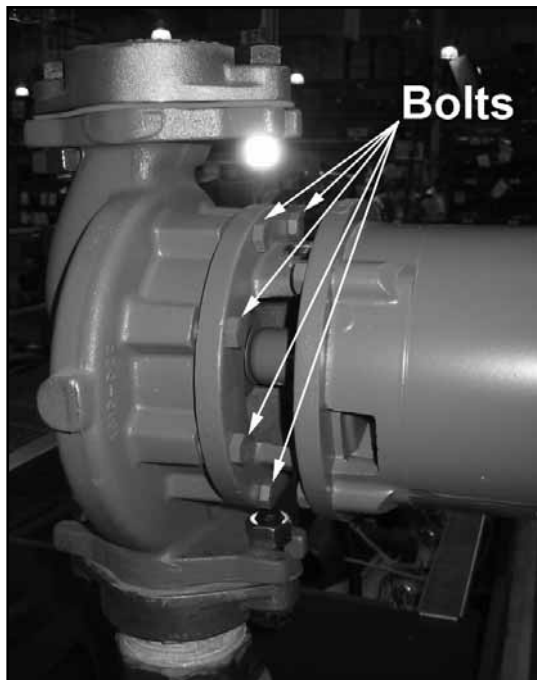

Fig. 12: Remove the eight bolts holding the pump body in place
1. Loosen and remove the eight (8) 9/16" wrench bolts holding the pump body in place. See Fig. 12.